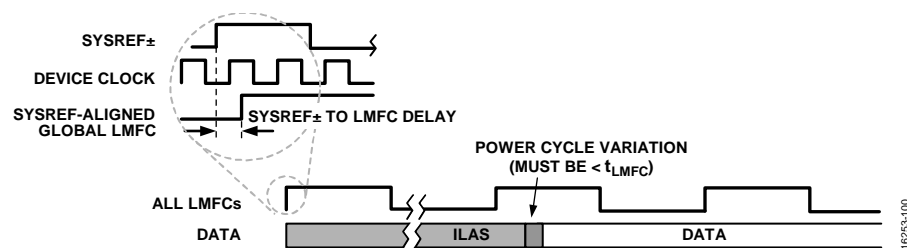

Figure 101. SYSREF± and LMFC
The JESD204B protocol organizes data samples into octets, frames, and multiframe as described in the Transport Layer section. The LMFC is synchronous with the beginnings of these multiframe. In Subclass 1 operation, the SYSREF± signal synchronizes the LMFCs for each device in a link or across multiple links (within the AD9697, SYSREF± also synchronizes the internal sample dividers). This synchronization is shown in Figure 101. The JESD204B receiver uses the multiframe
- The total latency variation across all lanes, links, and devices must be  $\leq 1$  LMFC period (see Figure 101). This includes both variable delays and the variation in fixed delays from lane to lane, link to link, and device to device in the system.